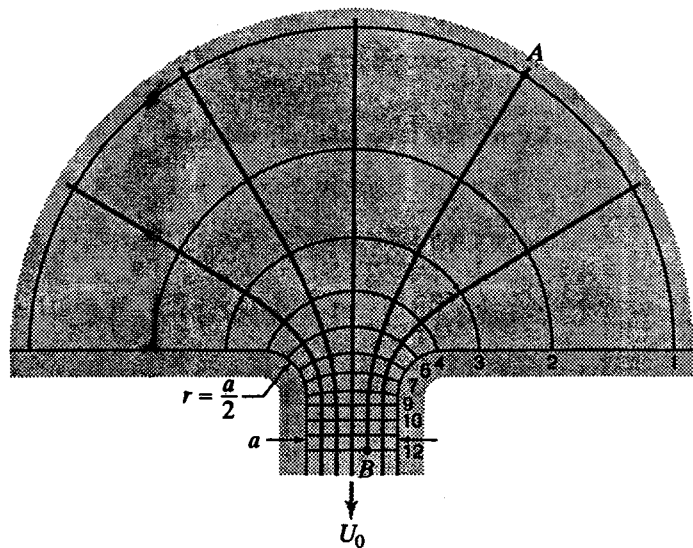

Figure X4.10.2
4.10.2 Figure X4.10.2 shows the flow net for two-dimensional flow from a rounded, long-slotted exit from a tank. If $U_0 = 1.8 \text{ m/s}$, what is the approximate flow velocity at A?